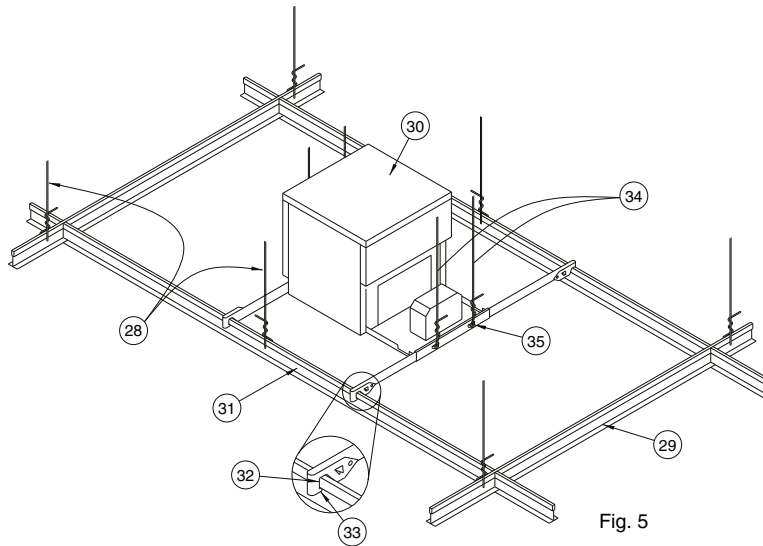
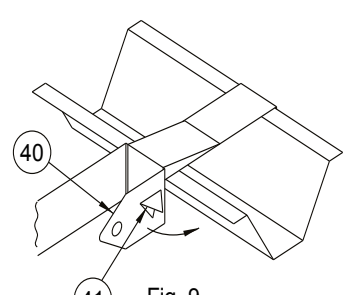

Fig. 5
Fig. 9
3. Once all Brackets are in place bend Hanger Bar End (40) around to secure Brackets to the Channels as shown in Figure 9. NOTE: Nailer Tab (41) should lodge under edge of Furring Channel.
4. Tighten bar hanger Locking Screws (5) in ends of Plaster Frame (2) to prevent lateral movement of the Frame.
5. Install two No. 12 SWG Galv. Steel Hanger Wires (34) secured to each end of Luminaire (30) plaster frame at Lanced Openings (35) in hanger bar support channels. Steel Hanger Wires to be installed vertically and secured to structural members of floor or roof assembly. (See Fig. 5)